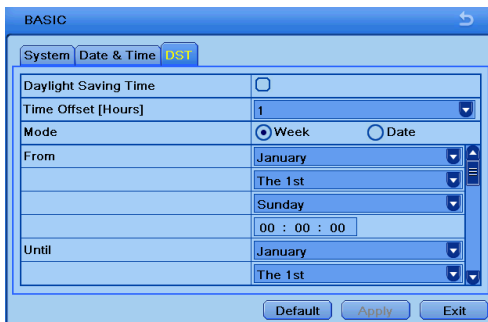

Fig 4-5 Basic Configuration-DST
- ② Set the date format, time format, time zone in this interface; checkmark “sync time with NTP server” to refresh NTP server date. You can also adjust system date manually.
- ③ Click “Apply” button to save the setting.
- ① Go to Main Menu→Setup→Basic →DST interface. Refer to Fig 4-5.
- ② In this interface, enable daylight saving time, time offset, mode, start & end month/week/date, etc.